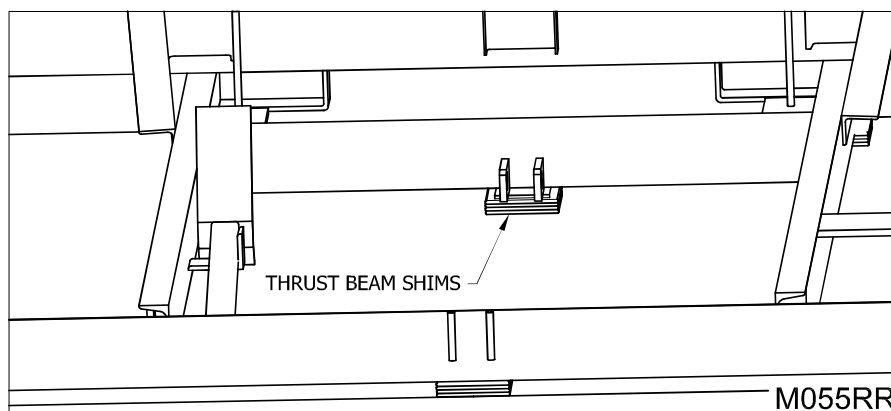

Figure 27: Thrust Beam Shims
4. ___ Thrust beam shims. (See “Figure 27: Thrust Beam Shims” on page 20)